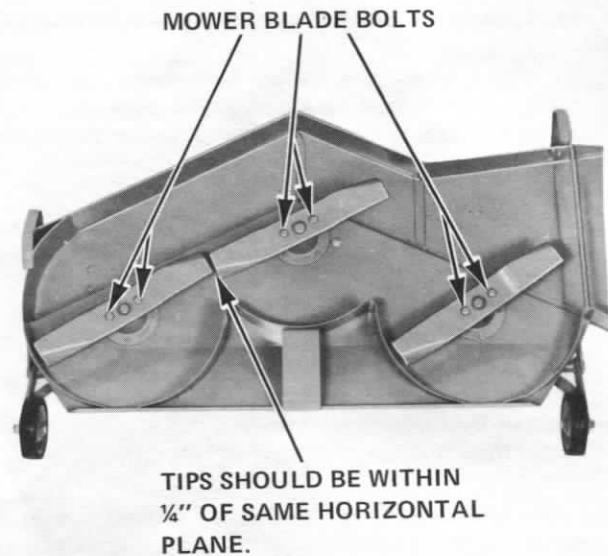

FIGURE 7
1. Mower Blade Bolts. See Figure 7.
2. Bent Blades. See Figure 7.
Check for bent blades before mounting the mower and after impact. Blade tips should be within $\frac{1}{4}$ inch of the same horizontal plane. Align all six blade tips, two at a time as shown in Figure 7 to determine this. Mowing with bent blades will cause missed strips and a poor mowing job. Bent blades should be replaced immediately.